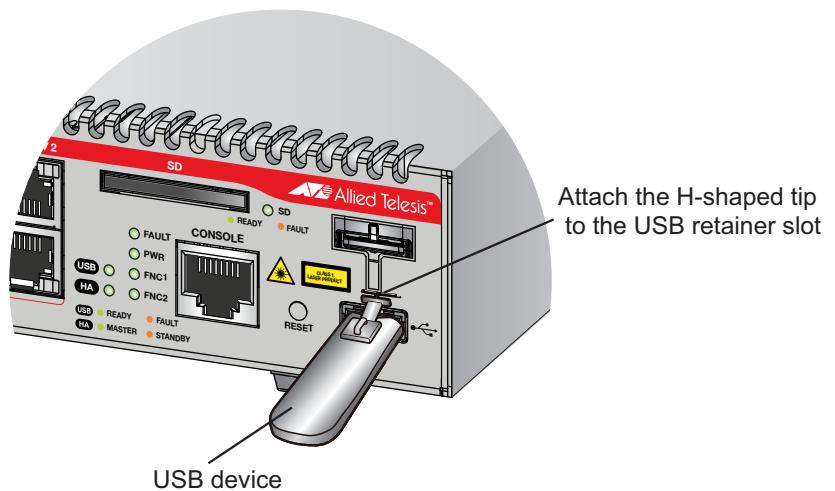

Figure 18. Attaching the USB retainer
2. Mount the USB device into the USB port and then attach the H-shaped tip of the USB retainer to the USB retainer slot as shown in Figure 18.